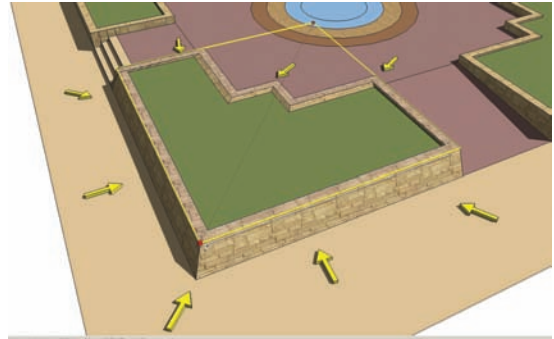

Fig. 7-47: Scale the top face of wall inward to create a sloped surface.
- a. Activate the Scale tool. Because the face is flat (2D), only eight green scale handles will appear. Ctrl+Alt and select a corner green handle and push it inward. This will accomplish two things (Fig. 7-47):